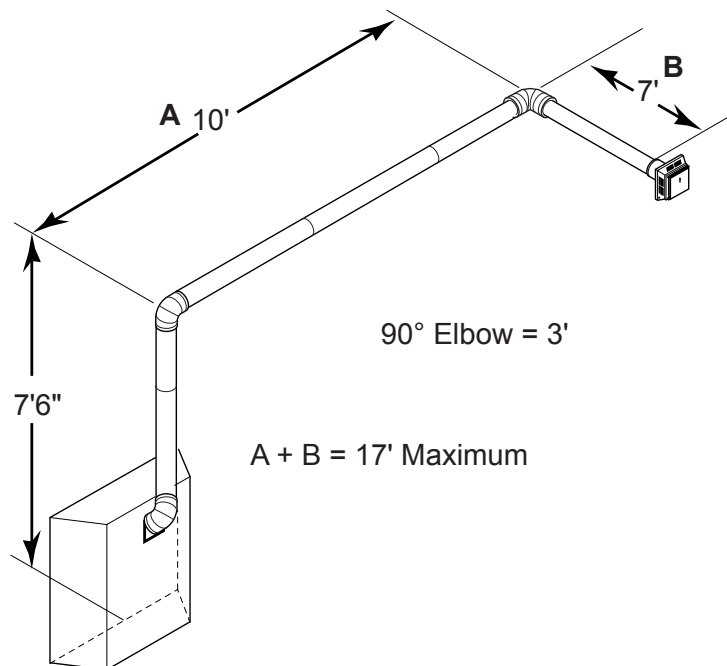

Figure 27 - Maximum Vent Run with Elbows
- If a 90° elbow is used in the horizontal vent run (level height maintained) the horizontal vent length is reduced by 36" (914 mm). This does not apply if the 90° elbows are used to increase or redirect a vertical rise. See Figure 27.